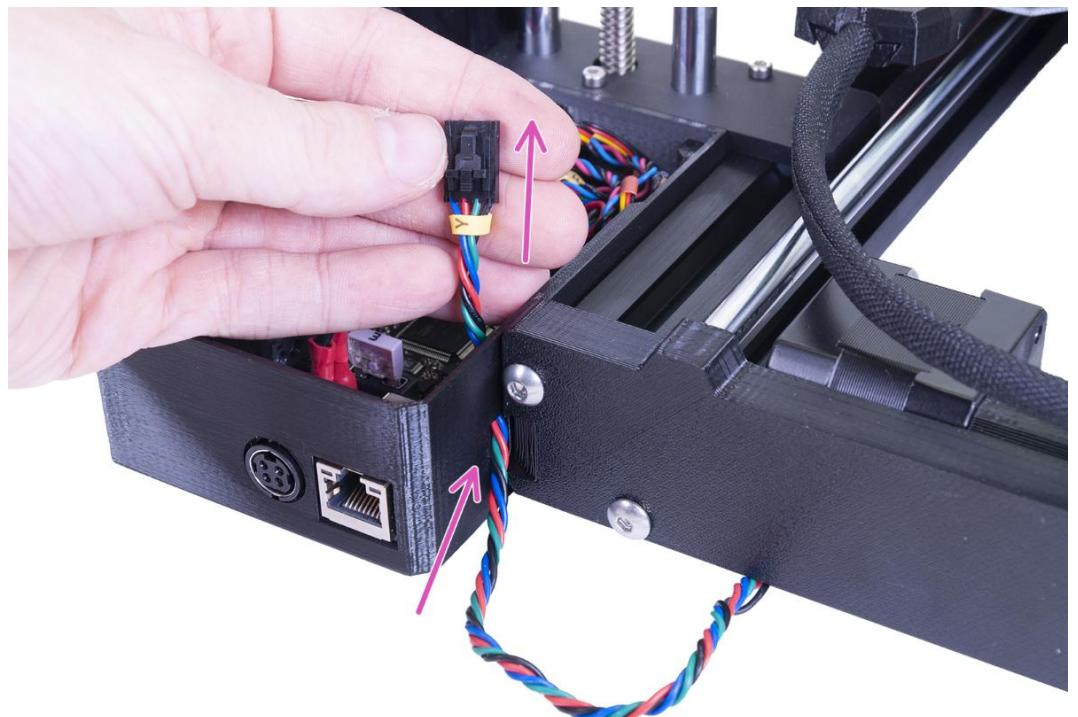

Figure 5.1.26
**A:** As shown in Figure 5.1.26. Take the motor cable (labelled Y) and push it through the